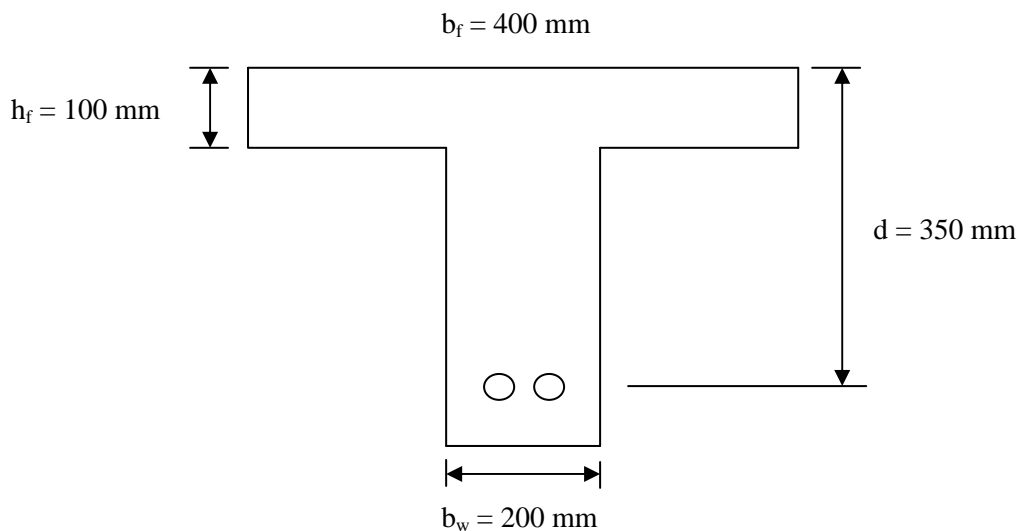

Figure 1.0 : Cross-section of T-beam.
- b) The ultimate design moment to be resisted by the T-section beam as shown in Figure 1.0 is 200 kNm. The characteristic strengths of reinforcement and concrete are $f_y = 460 \text{ N/mm}^2$ and $f_{cu} = 30 \text{ N/mm}^2$, respectively. Assuming the depth of the stress block below the flange, calculate the area of tension reinforcement required using simplified rectangular stress block method.